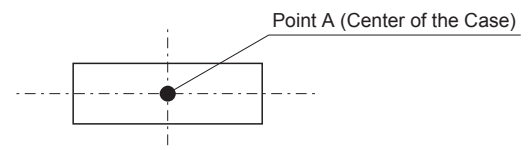

Fig.8.1 Temperature Measuring Point on the case (Top View)
- Please have sufficient ventilation to keep the temperature of point A in Fig.8.1 at Table8.1 or below. Please also make sure that the ambient temperature does not exceed 85°C.